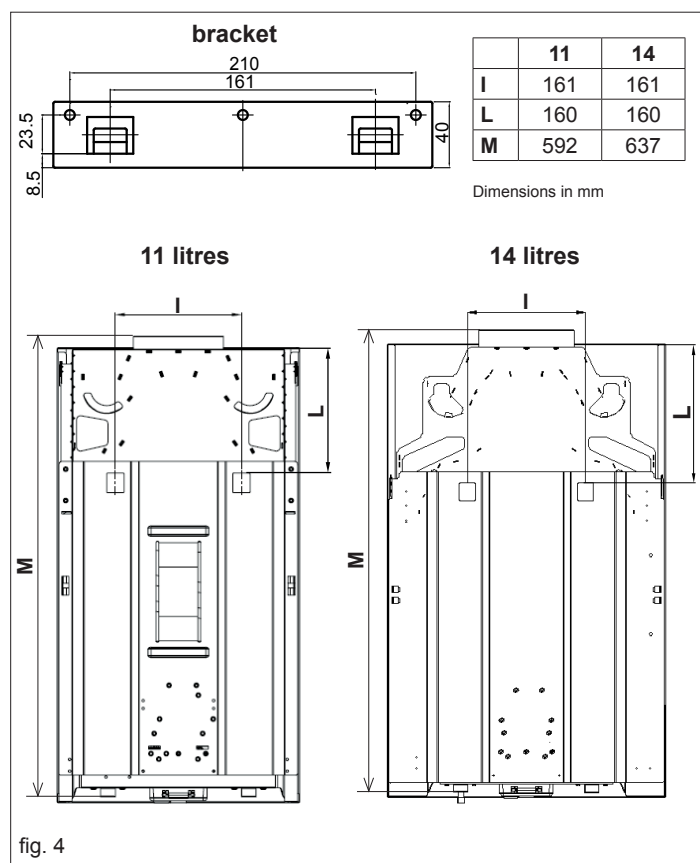

fig. 4
- Fig. 4 displays the dimensions necessary for wall mounting.